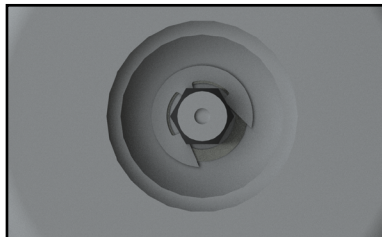

Fig.32
3. Insert the 5/16" socket into the port (Fig. 32).